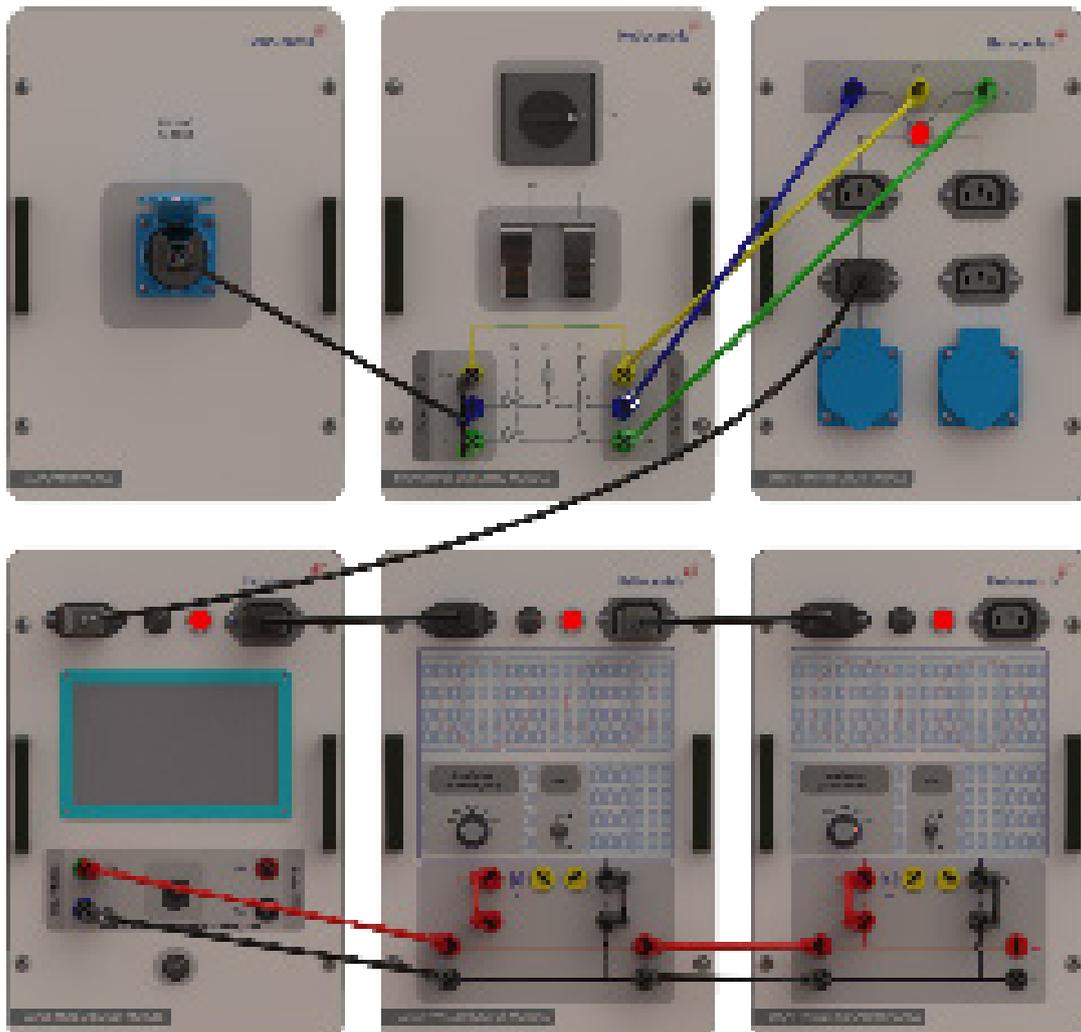

Figure-4
15) Connect as shown in figure-4 to examine the parallel connection of photovoltaic panels. Set the selector switches on both modules to A.